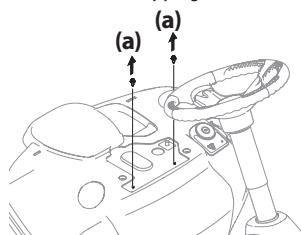

Figure 5
- Remove the two self-tapping bolts (a) factory installed on the riding mower. See Figure 5.